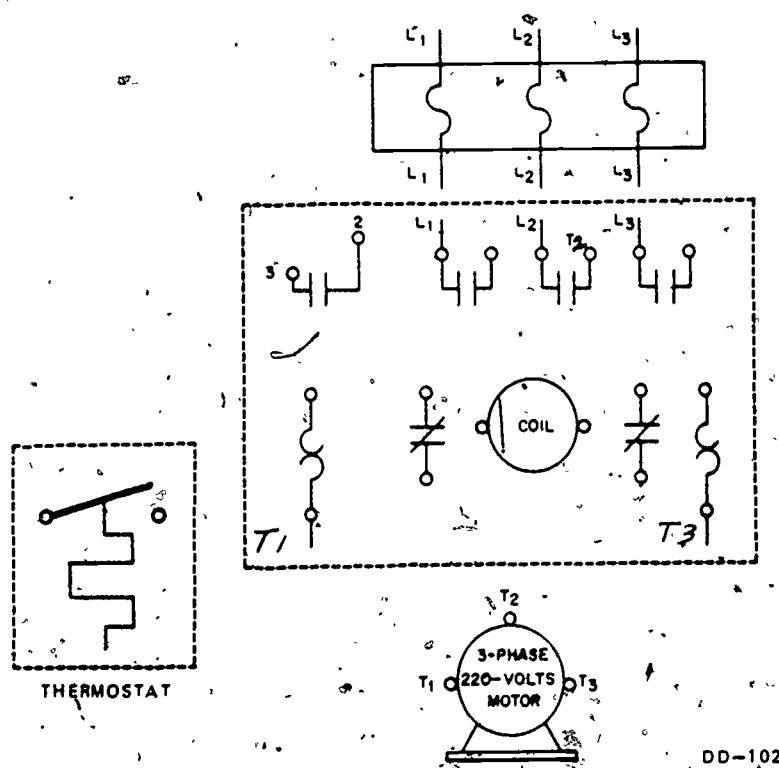

Figure 19. Connecting a Three-Phase Motor System Using a Thermostat
Step 1. Complete the following diagram, figure 19.